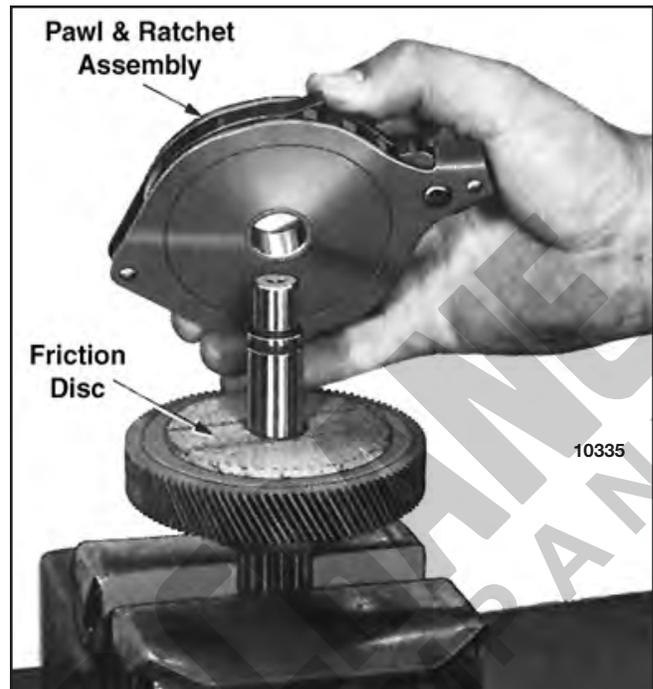

Figure 7-23. Removing Pawl and Ratchet Assembly from Load Brake Shaft
2. Using a puller tool, remove brake flange from shaft. A groove is provided around outer diameter for this purpose. See figure 7-22. Remove key from shaft and lift off 2 friction discs, and the pawl and ratchet assembly (fig. 7-23).
- When installing pawl and ratchet assembly on load brake shaft, be certain that teeth on ratchet face are in the same direction as shown in fig. 7-23. The ratchet assembly should rotate freely when turned counterclockwise and the pawl should engage ratchet teeth when unit is turned clockwise.